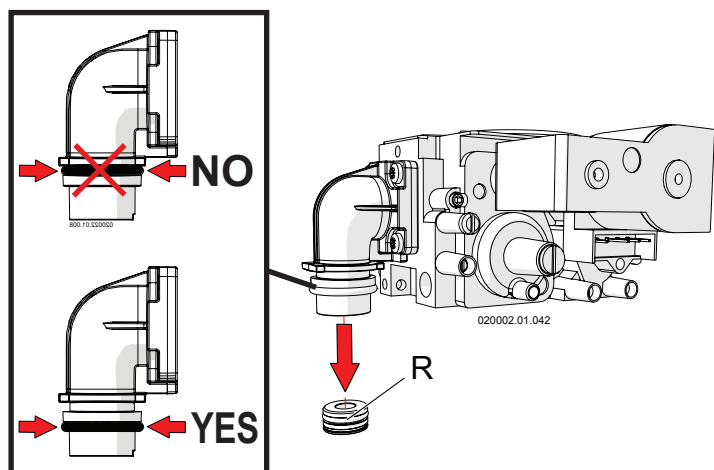

Figure 6-5 – Replacing the gas nozzle
- 10.- Replace gas nozzle "R" (see Figure 6-5) with an appropriate one according to Figure 6-7 under "Gas nozzle diameter";